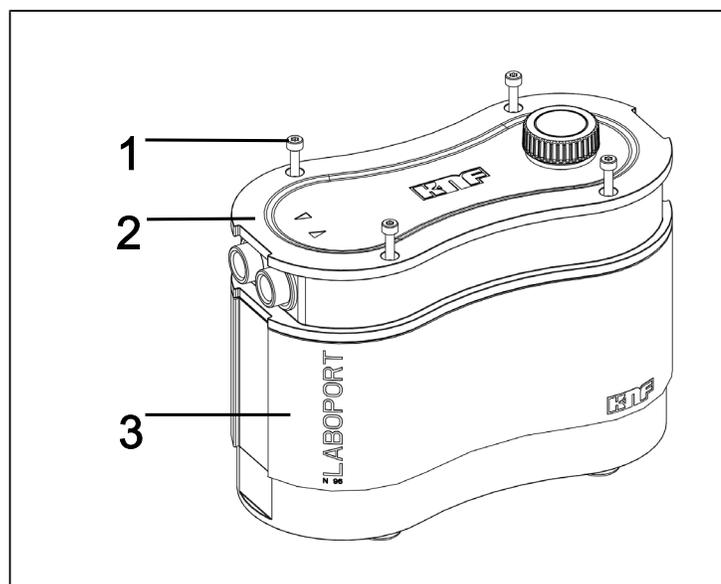
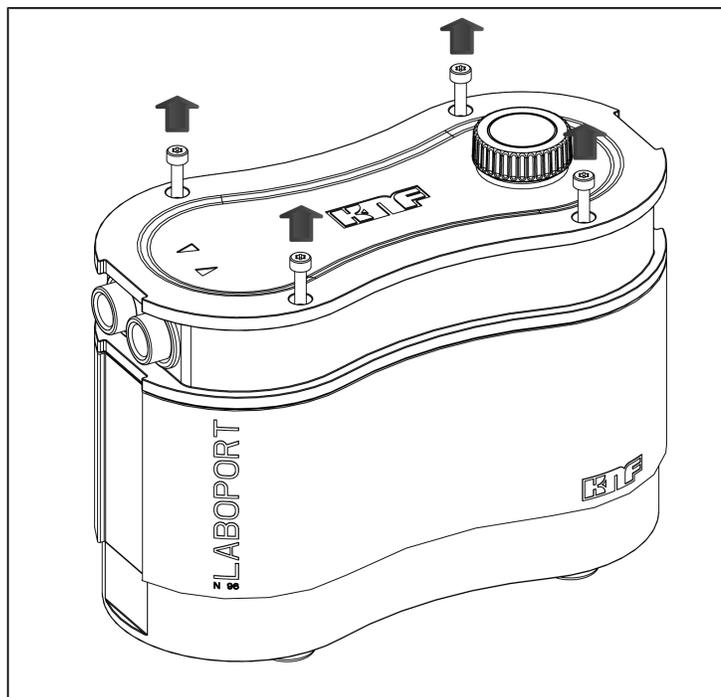
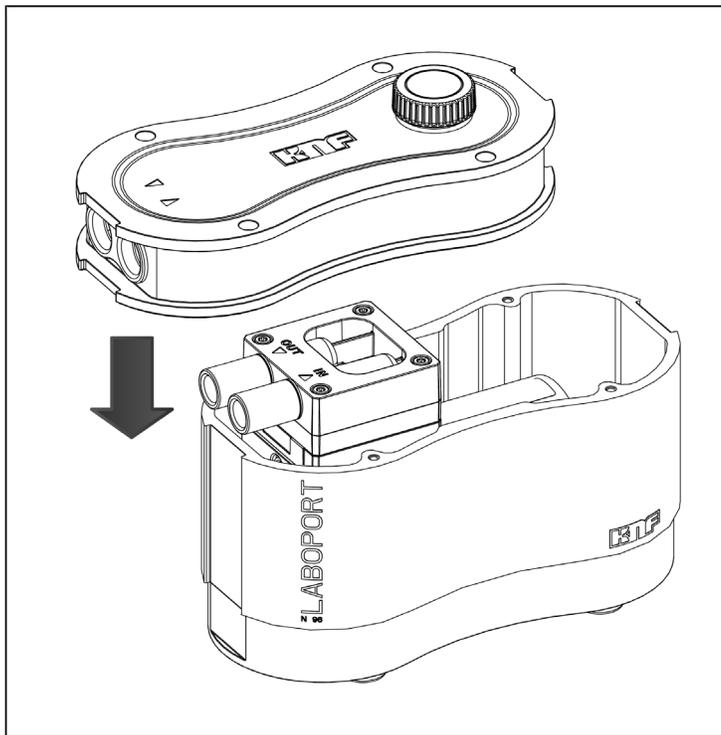

Fig.6: Opening the housing
Fig.7: Loosening housing screws
Fig.11: Mounting the housing cover
1. Loosen the four housing screws (Fig. 6/1) und entnehmen Sie diese aus dem Gehäusedeckel (2) (see Fig. 7). Store the screws for later reassembly.
1. Carefully place the housing cover (Fig. 6/2) on the pump housing (3) (see Fig. 11).